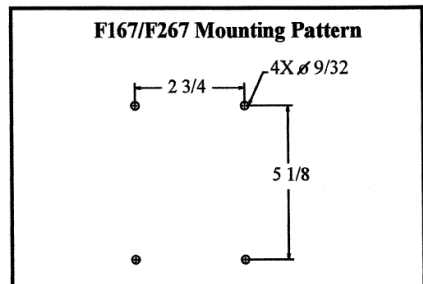

Figure 9
1. Use pattern in Figure 9 for mounting power supply on your machine. Mount power supply following instructions included with power supply.